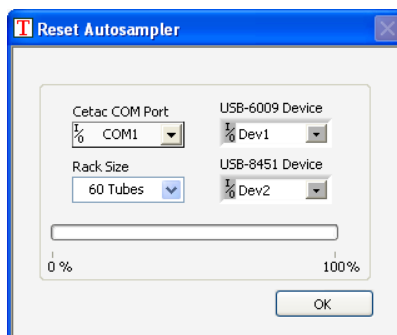

Figure 3-1: Cetac COM Port and Test Tube Rack Size input.
1. Using the drop down box of available COM ports, select which COM port on the computer the Cetac autosampler has been connected to. Usually this is COM1. See figure 3-1.
2. Using the drop down box of available test tube rack sizes, select the size you are using and click 'Ok.' The standard rack size is 60, however different racks to house different size tubes can be ordered. See figure 3-1.
Note: These startup settings will be remembered and will not need to be entered in the future. To change the rack size or COM port select 'Reset Autosampler' from the 'File' menu. This will show that same dialogue box as in figure 3-1.